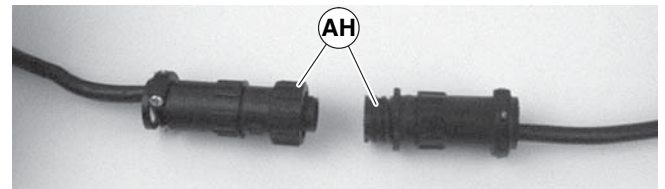

Figure 41
- For DC variable speed motor, unplug motor cord at disconnect (Figure 41, item AH).